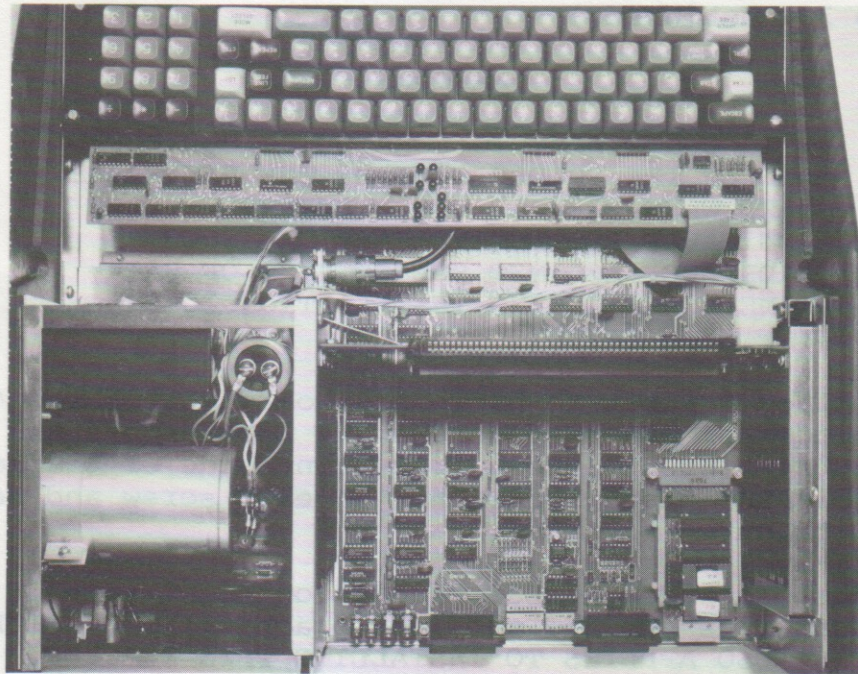

Figure 6-7. Backplane board (Sol-BPB) installation. Rear of Sol is at bottom and Sol-BPB is to right of power supply subchassis in line with C8 and transformer.
- * () Step 32. Install backplane circuit board (Sol-BPB). The photograph in Figure 6-7 on Page VI-17 shows the backplane board installed.